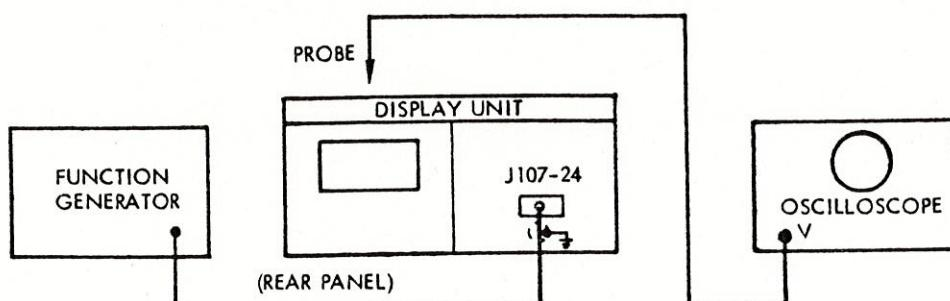

Figure 7-3. A102 Sweep and Vertical Amplifier Board Test Setup
- (2) Set oscilloscope for 10V/DIV vertical, 5 ms/DIV horizontal. Connect function generator (table 7-1) to J107-24 (figure 7-3). Apply probe to pin 8.
7-18. A104 HIGH VOLTAGE DIVIDER AND BLANKING BOARD. With function generator (table 7-1) connected to J107-24 as shown in figure 7-3, set for 10V sawtooth, 1 kHz. Rotate INTENSITY front panel control fully clockwise, and adjust Maximum Intensity R16 so that display just avoids blooming at extreme CW setting of INTENSITY control. Set function generator amplitude and frequency for a full screen display pattern, and adjust Distortion R28 to obtain a rectilinear display.